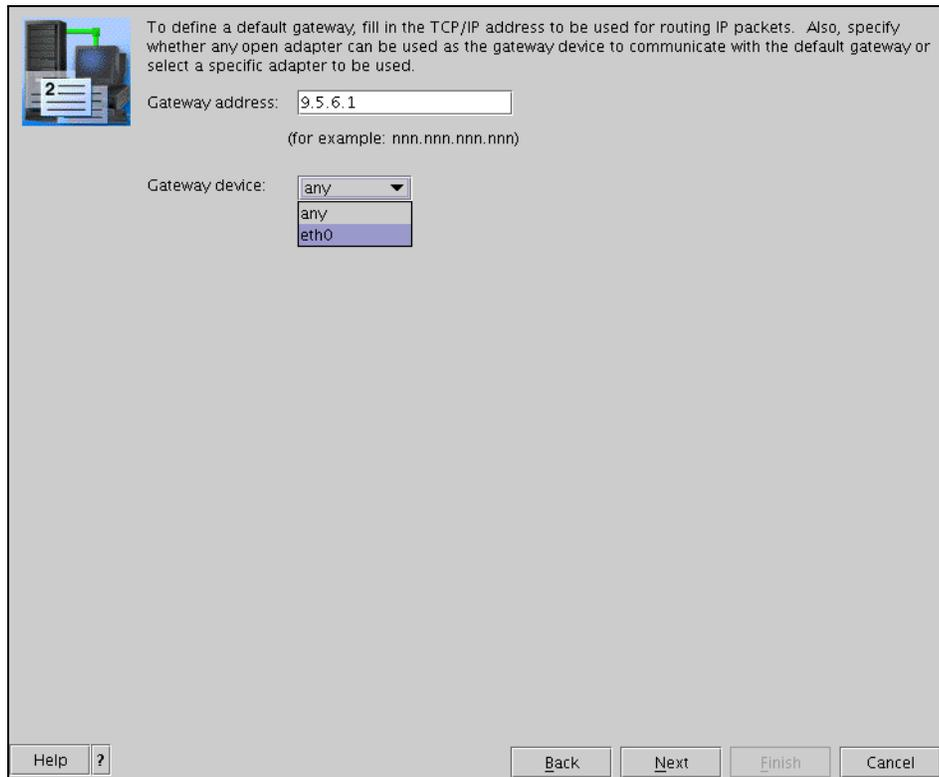

Figure 4-18 Guided Setup wizard - Default gateway
18. The Guide Setup Wizard - configure eth0 panel is now shown (Figure 4-18). We can specify that one of our LAN adapters can act as a gateway device to our open network (if required).